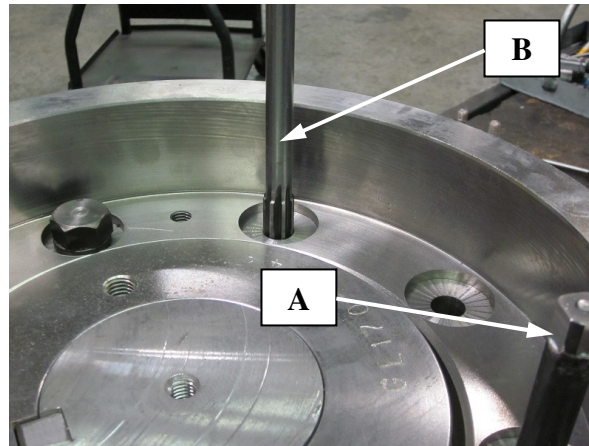

Figure 4
- With the new sheave on the rotor, and still hot, insert the 11/16" guide pin "A" into one of the sheave mounting holes and one of the mounting holes on the rotor. Once the guide pin has one set of holes exactly aligned, use the 11/16" reamer "B" as necessary to ensure all the other mounting holes on the sheave will align properly. Refer to Figure 4.